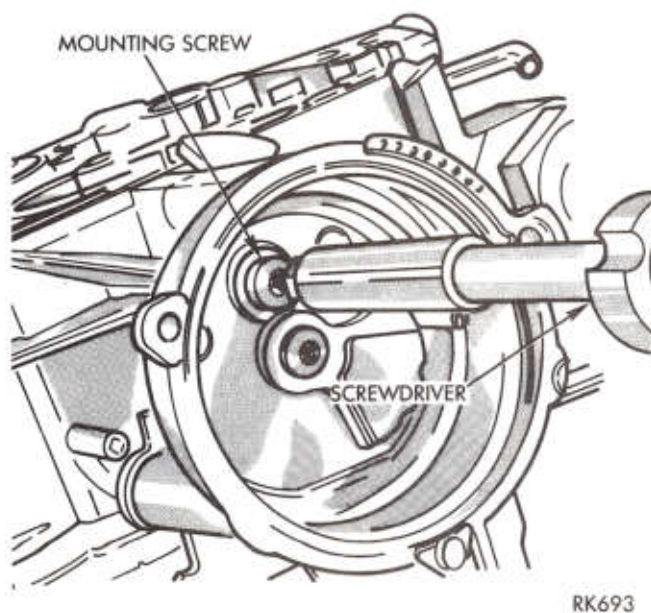

Fig. 27—Removing Choke
(1) Remove choke cover.
(2) Remove choke mounting screw from inside choke housing and slide choke assembly out of float bowl (Fig. 27).
(11) Install choke housing retaining screw and washer, tighten securely (Fig. 27).